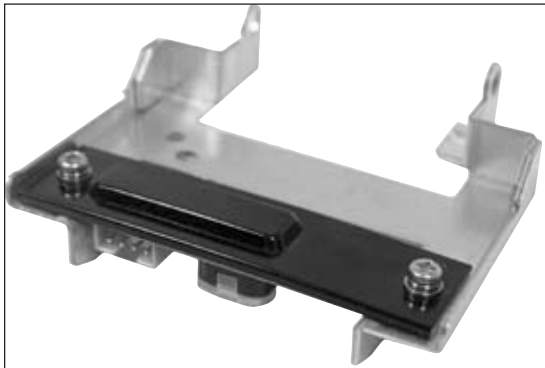

Figure 2
- d. Place the black, mylar sheet (Part No. 079648) over the back of the optical board (Part No. 079646), and secure the board to the new swivel plate (Part No. 086639). Make sure the mylar sheet is positioned as shown (Figure 2).